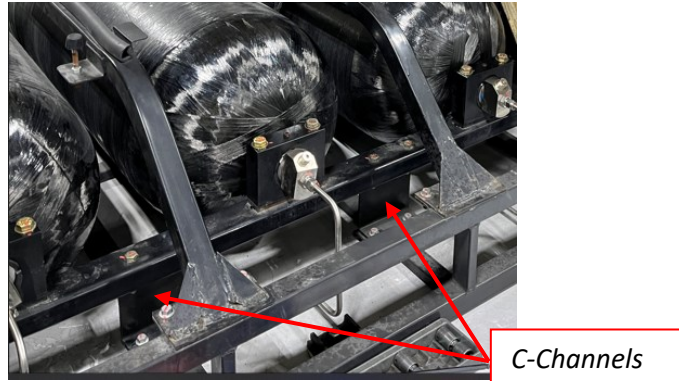

Figure 8 - C-Channels under Cradle.
7. Inspect the C-Channels for signs of damage or cracks. The C-Channels are located at the front and rear of the CNG mounting structure. Front C-Channels are shown in Figure 8 below. If any cracks are found, the C-Channel will need to be replaced.